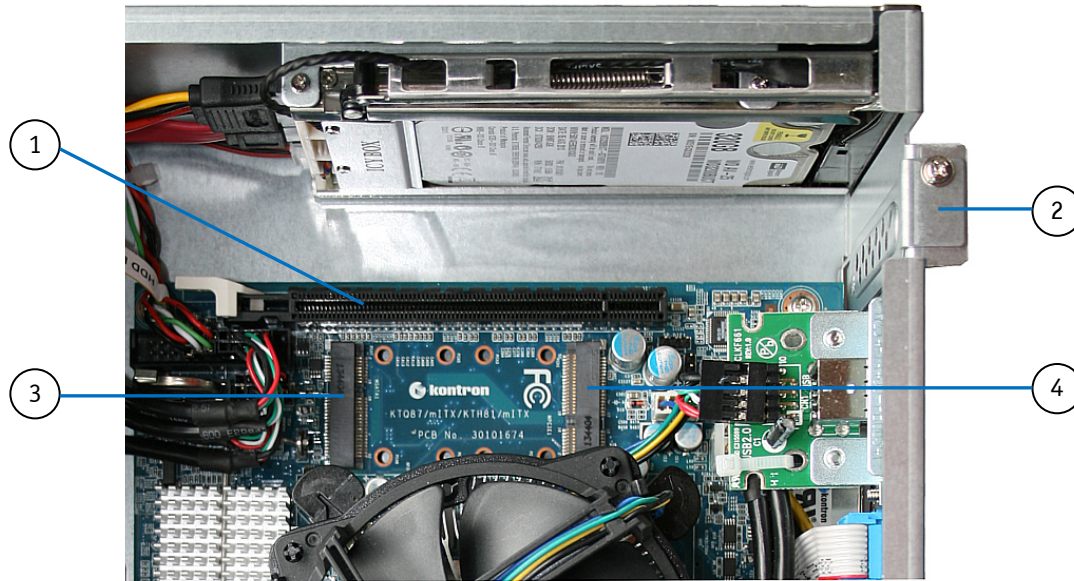

Fig. 17: Expansion Slots of the KBox B-101
2. After removing the cover, the PCIe slot, the Mini PCI Express slot and the mSATA slot are easily accessible (see Fig. 17). Now, appropriate expansion cards can be installed.